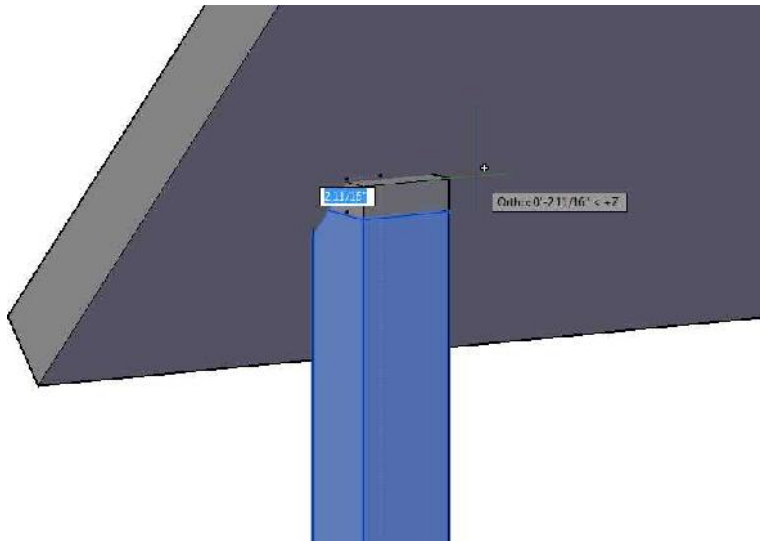

FIGURE 16.88: Adjusting the height of the roof support posts
13. Drag the ViewCube to change to an isometric view, and then adjust the height of the roof support posts so that they extend into the roof deck but not through the roof surface (see Figure 16.88).